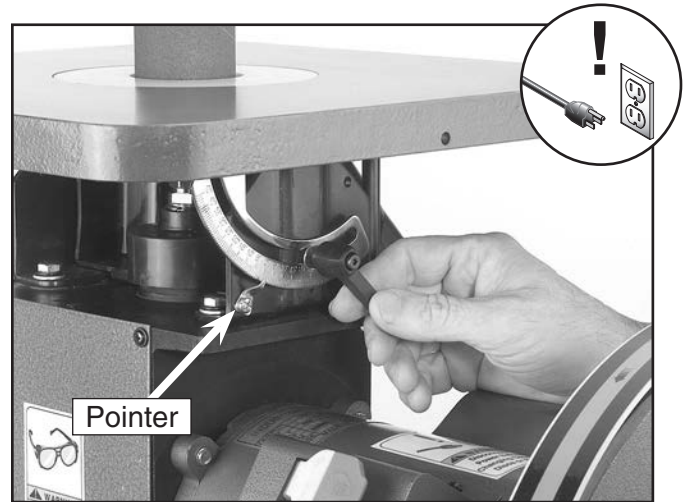

Figure 9. Setting the table scale at 90°.
2. Set the table at 90° as shown in **Figure 9**.